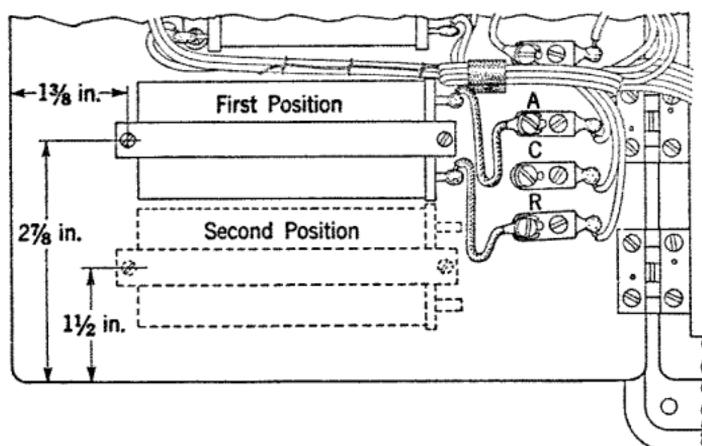

Fig. 2
3.03 Where the use of a condenser in the induction coil network is required (see 4.01) mount an 1149B 1/2 mf. condenser on the door of the set as indicated in Fig. 2 (1st position). Attach condenser with strap P-225255 and two 1" No. 6 R.H. blued wood screws. Where it is local practice to connect a condenser in series with the talking circuit, mount a 149A 1 mf. condenser in the same location. If a condenser is also required for the induction coil network, mount it in location shown as 2nd position in Fig. 2.
3.04 Where a KS-8058 (400 ohm) resistance is to be used in the induction coil network, attach it directly to terminals designated A and R in Fig. 2.
Note: Terminals A, C and R may not be designated in the sets but location of these terminals is shown in Fig. 2.